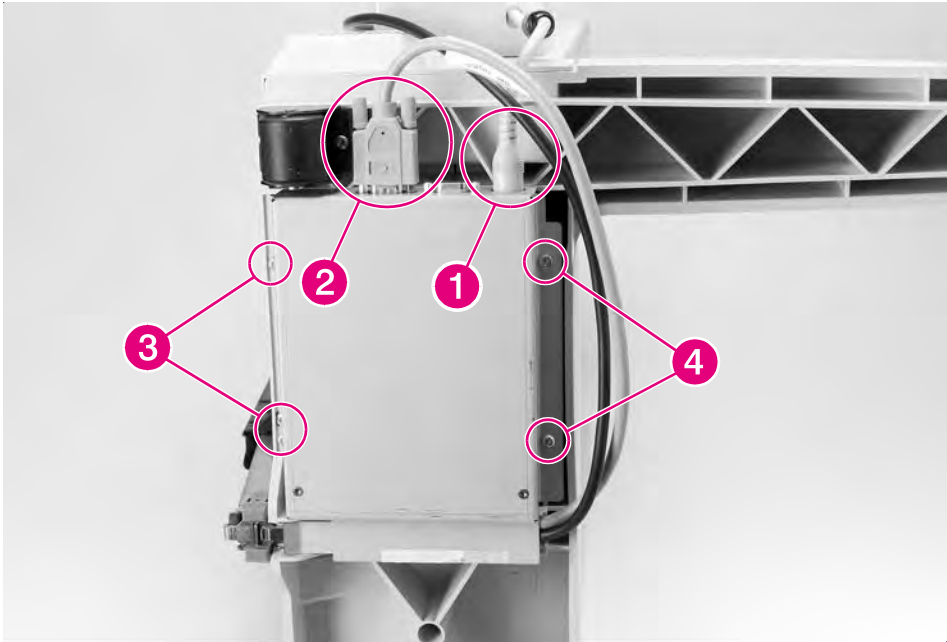

Figure 6-165 8-bin Mailbox Controller PCA (1 of 2)
- 3 Release the Controller PCA Assembly from the bottom of the 8-bin Mailbox frame (see figure 6-165 on page 460, steps 1 through 7).
- 2 Reinstall the 8-bin Mailbox Controller PCA Assembly (see Figure 6-165).
- 2 Locate the power cable that runs from the 8-bin Mailbox Power Supply down to the 8-bin Mailbox Controller PCA, and disconnect the cable from the Controller PCA (Figure 6-165, callout 1).
- 1 Disconnect the power cable and the C-link cable from the 8-bin Mailbox Controller PCA (see Figure 6-165, callouts 1 and 2).